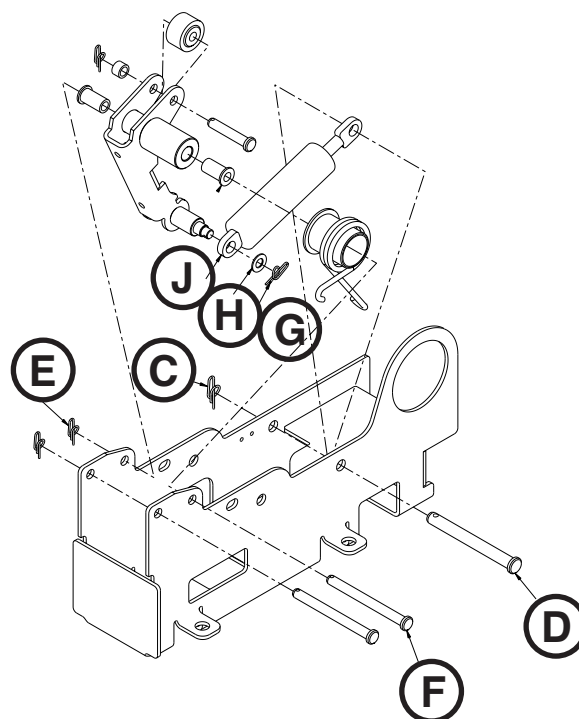

Figure 17
7. Using needle nose pliers, remove the rue ring cotter (C) and clevis pin (D) from the gas cylinder (dampener) (J) (Figure 17).
9. Using needle nose pliers, remove the rue ring cotter (E) and clevis pin (F) from the dampener arm (Figure 17).
10. Using needle nose pliers, remove the rue ring cotter (G) and washer (H) (Figure 17).